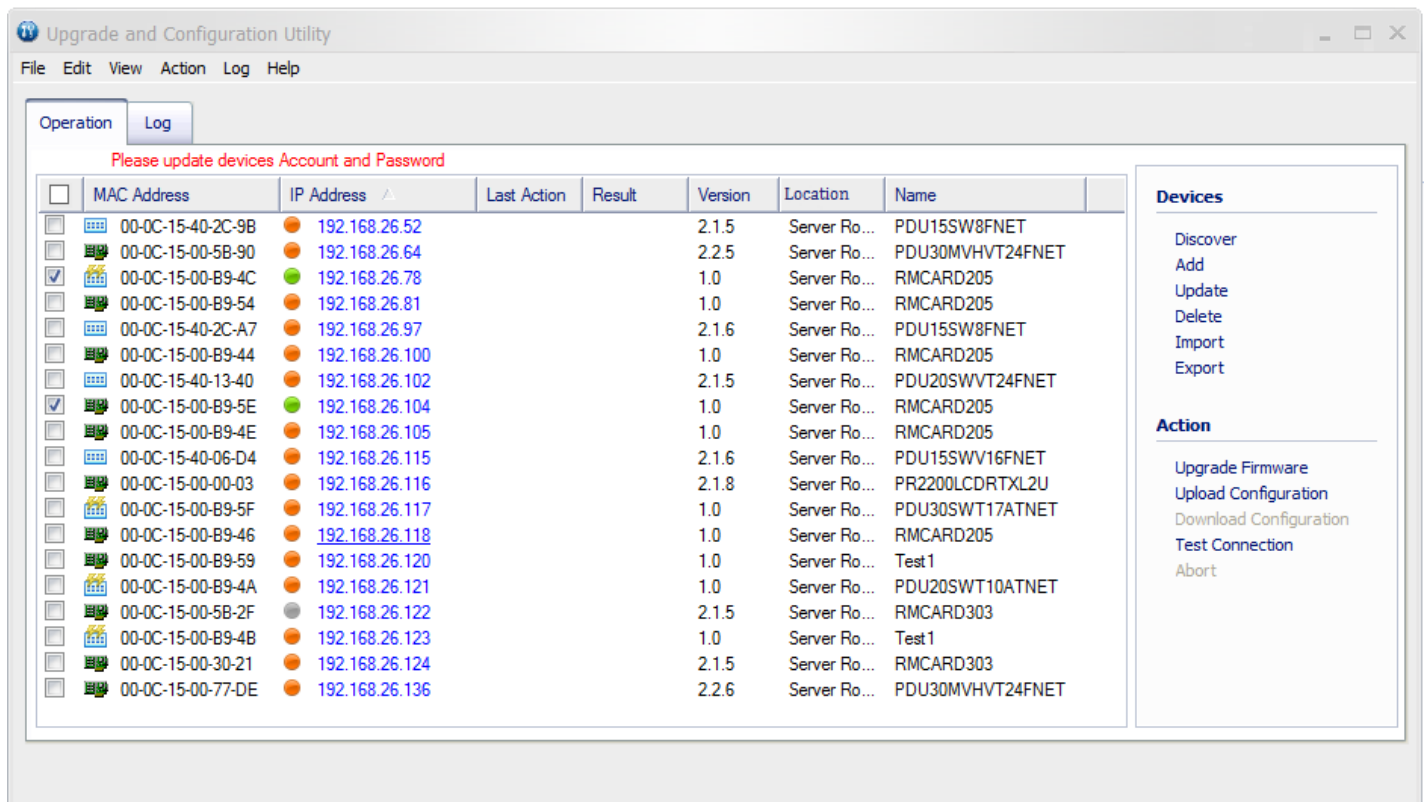

Figure 5. The main window of the “Upgrade and Configuration Utility” program.
3. The main dialog of the Upgrade and Configuration Utility tool program is shown in Figure 5. The configuration tool will display all CyberPower Remote Management devices present on the same network subnet. The "Discover" button is used to search the local network subnet again.
4. Click the as to select the Remote Management Cards, and select “Update” on the right to update devices account and password. Once the update confirmed, the ● will become ●. For example, to update the account and password for the two Remote Management Cards, which have MAC address of 00-0C-15-00-B9-4C and 00-0C-15-00-B9-5E individually, as shown in Figure 5.